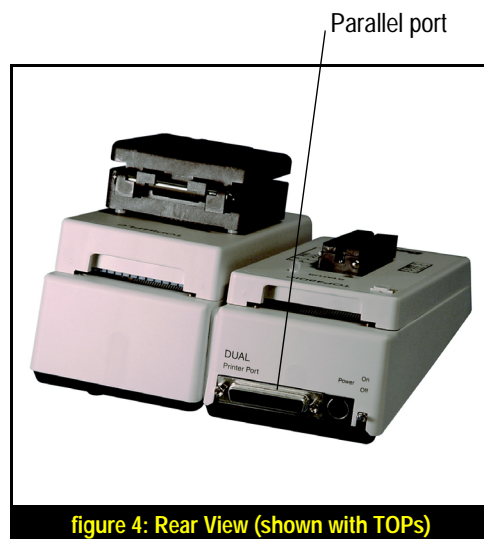

figure 4: Rear View (shown with TOPs)
1. Connect one end of the parallel cable to the port on the back of the programmer. See figure 4.